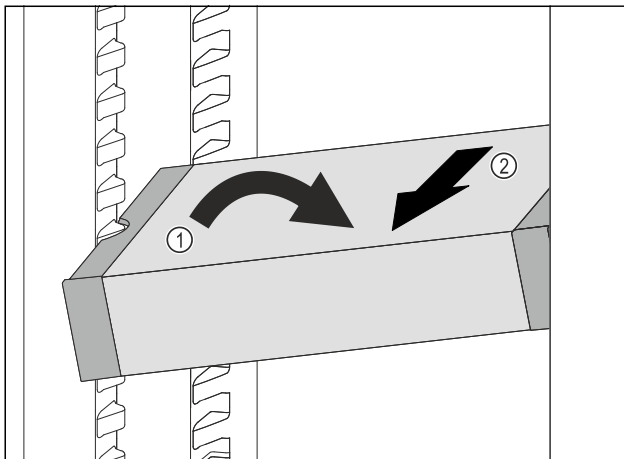

Fig. 99
- Set VarioSafe in refrigerator compartment at an angle. Fig. 99 (1)
- Take VarioSafe out to the front. Fig. 99 (2)